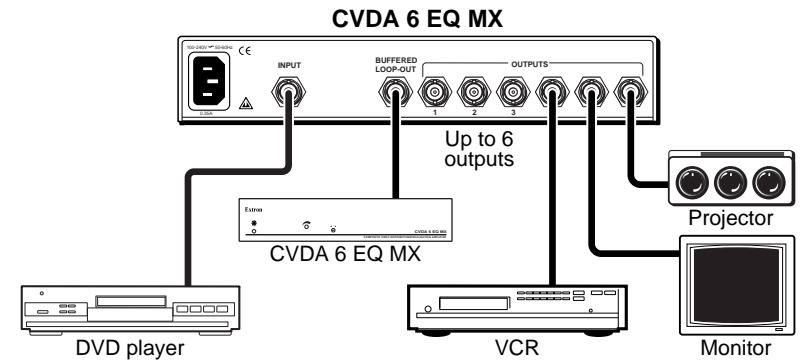

Figure 2 — Typical CVDA 6 EQ MX application
- Connect the composite video input to the input BNC connector on the rear of the CVDA 6 EQ MX (figure 2).